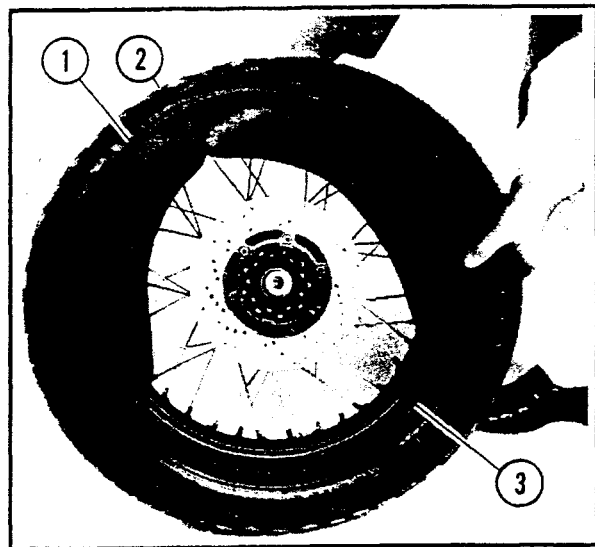

Figure 5-73. Installing Inner Tube
3. See Figure 5-73. Position one-half of inner tube (1) inside tire (2) and place tire with tube onto wheel rim (3).